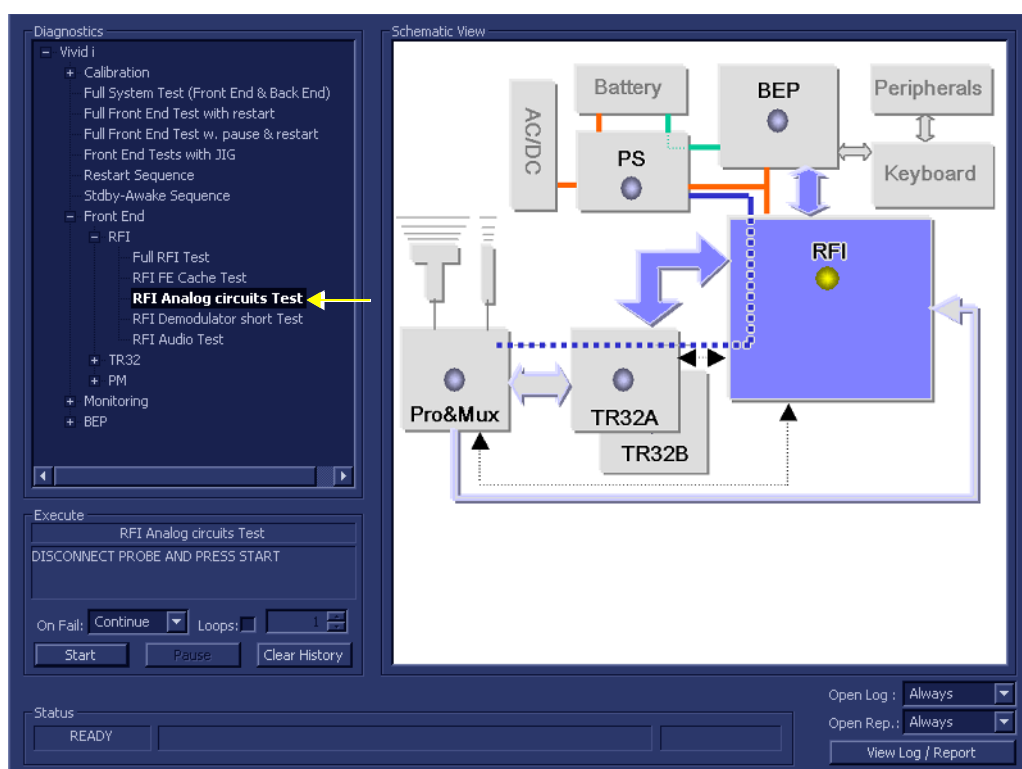

Figure 7-15 RFI Analog Circuits Test
- 1.) In the *Diagnostic Test* window, trackball to **RFI Analog Circuits Test** in the list of *RFI*/tests available for selection from the Diagnostic Test Tree (see Figure 7-15 below) and press **Set**. The RFI Analog Circuits Test name is displayed under *Execute*; the relevant system component to be tested are highlighted light blue in the Schematic View (RFI), as shown below: